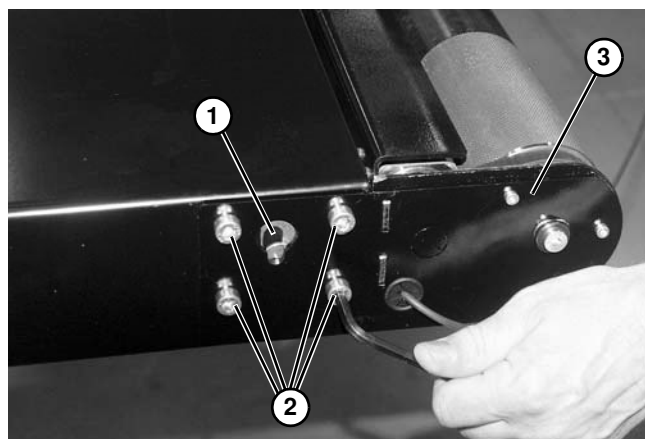

Figure 188
2. On tension end of the conveyor, identified by the pinion access slot (Figure 188, item 1), loosen the four tail clamp screws (Figure 188, item 2) on both sides of the conveyor head plate assembly (Figure 188, item 3).